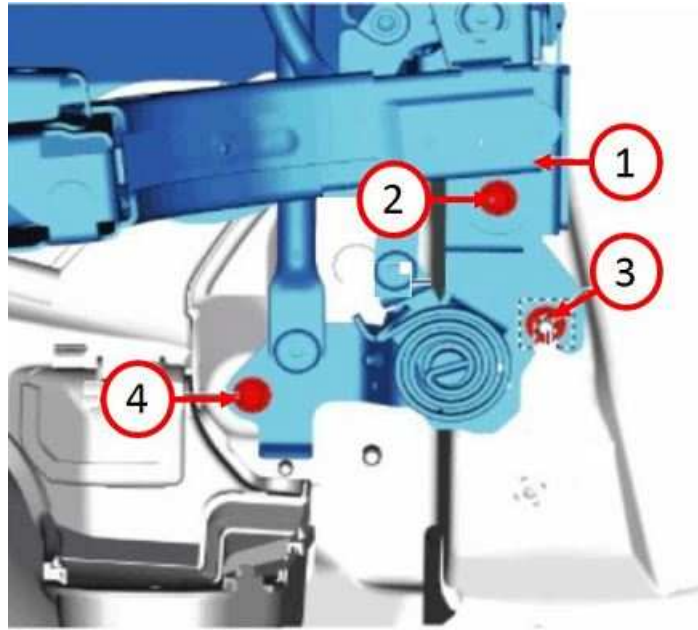

Fig. 5
8. Tighten the two bolts and bolt stud nut of the link bracket to 19-25 N·m (15-18 ft lbs) (Fig. 5) .